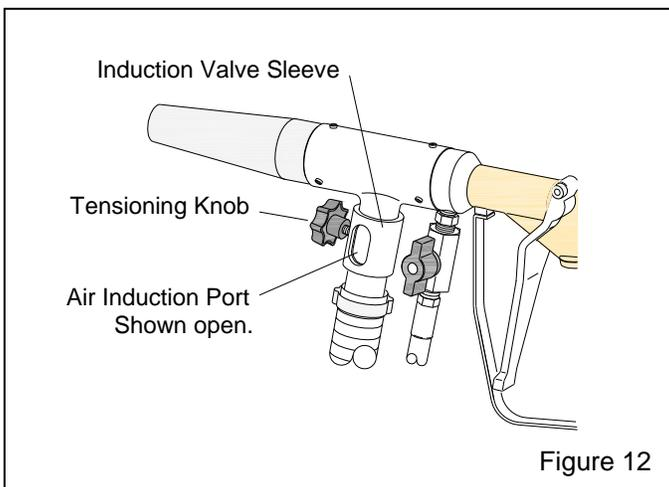

Figure 12
5.4 Air-Induction Valve (stops abrasive flow) Figure 12